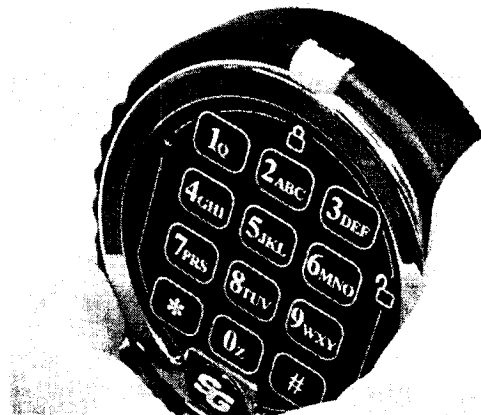

Figure 6
Step 6—Once the wires are safely positioned out of harm's way, push the keypad ring back up against the base, then turn it clockwise until the yellow tab snaps back into its normal position (Figure 6).